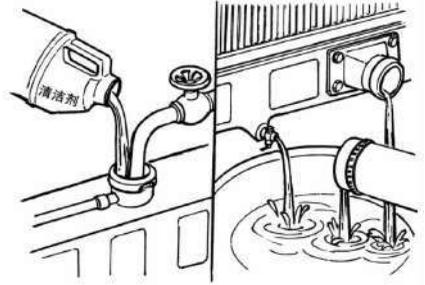

Fig 5-50 Remove Scales
6.4.3 Although soft water is used, however after some period of time, a little scale can be deposited in the cooling system, which can have negative effect on coolant circulation and heat exchange. Remove the scales regularly (see Fig 5-50).